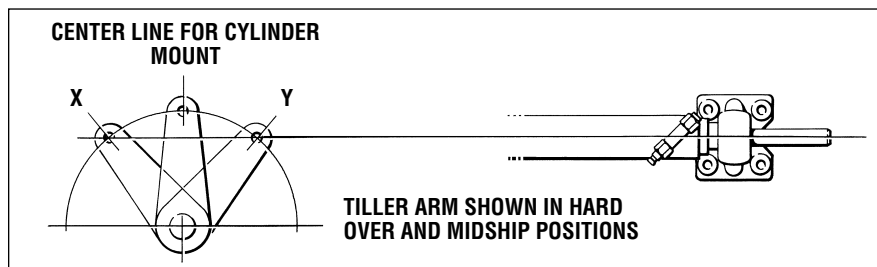

Figure 7.
1. To achieve MAXIMUM cylinder performance it is suggested that an imaginary line is drawn through the tiller arm hole at both hard over positions (see figure 7), this will create the "cylinder center line". With the tiller arm at hard over positions, angle X and Y should be the same.